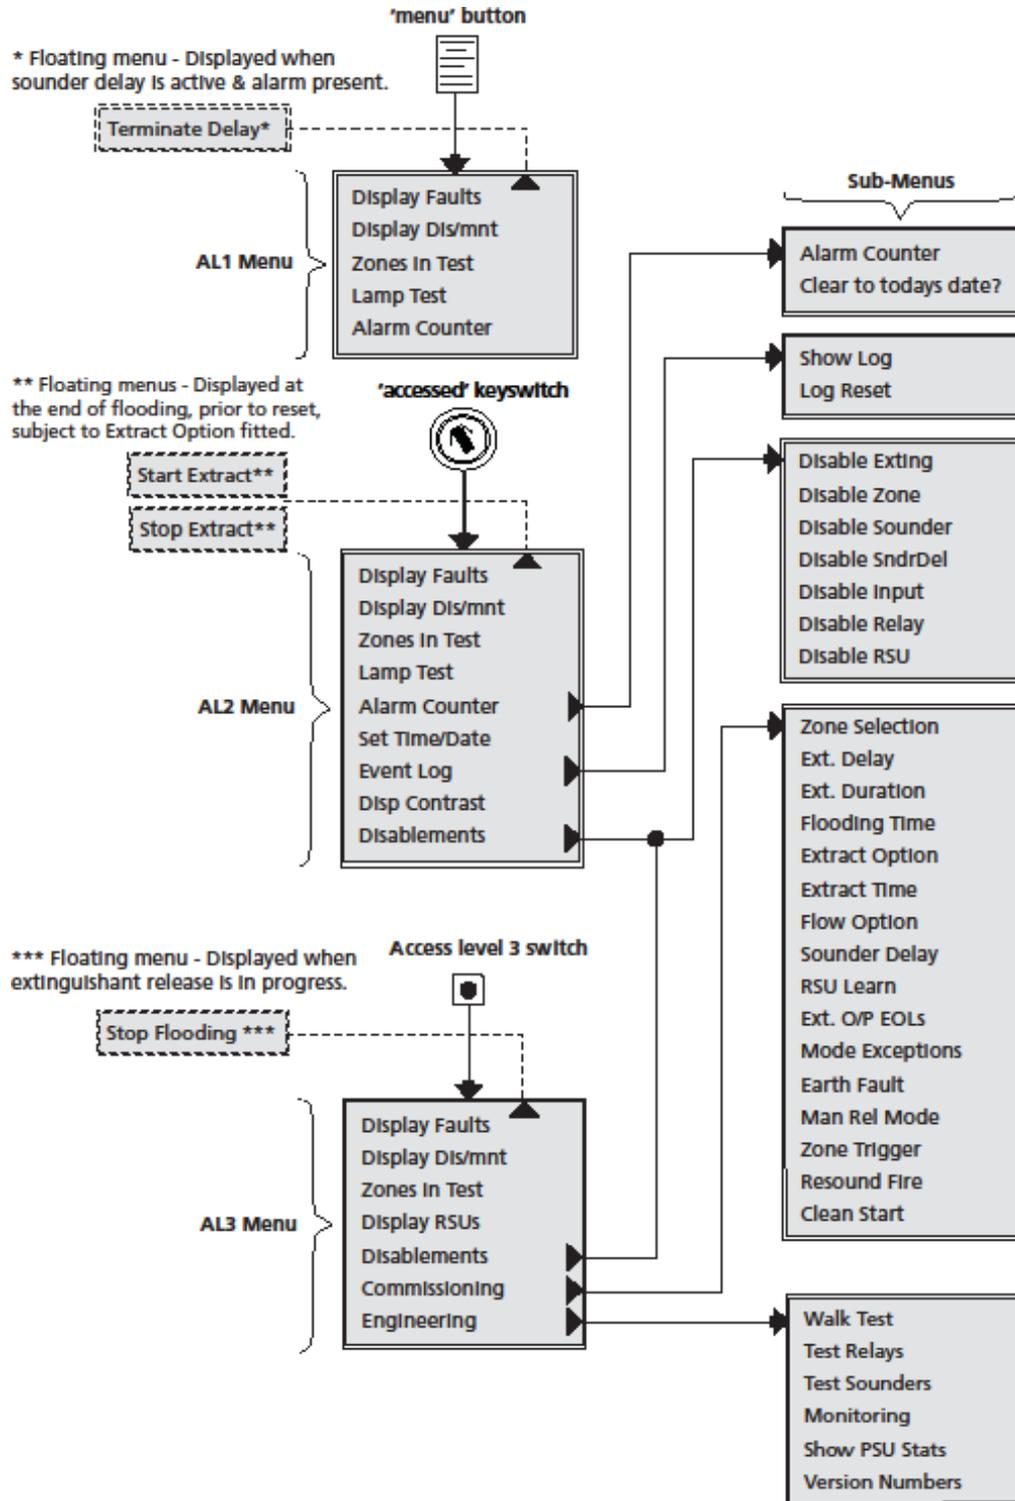

Figure 1: Overview of Access Level Menus
- Pushbutton and keyswitch entry to three access levels (displayed on the LCD unit). Access Level 1 (AL1) is for general users, Access Level 2 (AL2) is for authorized users and Access Level 3 (AL3) is for engineers. See Figure 1, below.